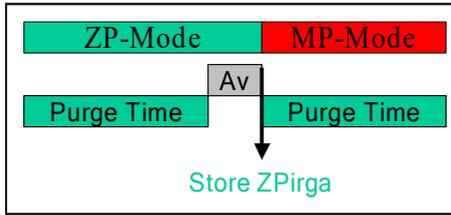

Fig. 30: Time course of an Auto *ZPirga* measurement
*Auto ZPirga* performs the complete procedure for measuring a *ZPirga* (Fig. 30): The solenoids of the gas paths are switched to *ZP mode*, the gas analyzer is purged for a defined period of time, the so-called *Purge time*. After purging, the  $dCO_2$  and  $dH_2O$  values are averaged and stored as *ZPirga*. The solenoids then switch back to *MP mode* and the gas analyzer is purged again before measuring points can be taken.